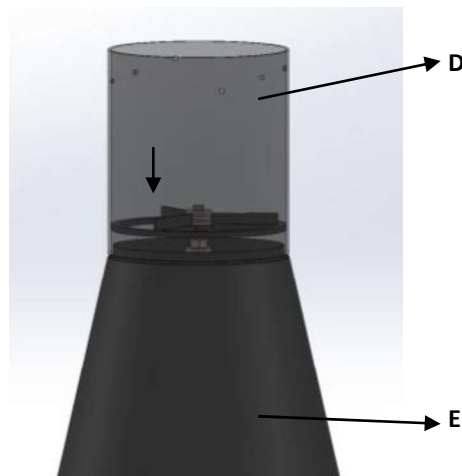

Figure 2- Representation of the assembly
Assemble the body assembly by fitting the tube (D) into the hood (E). Then fit the components (G, H, I and J) as shown in figures 2 and 3. It is important to follow the order of the components: washer (H), 3 x spacers (I) inside the bearing (J), washer (H), nut (G) and lock nut (G). The nuts are tightened with the spanner provided (F), making sure that the first nut is securely tightened, allowing the assembly to rotate.